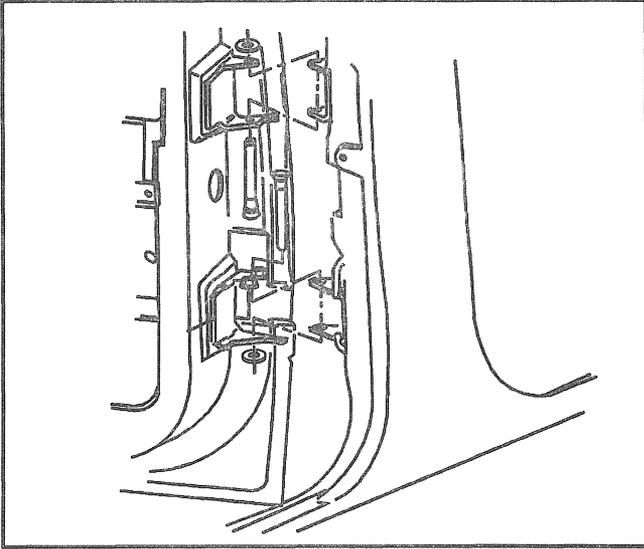

Figure 61—Rear Door Hinge Pin Removal
1. Lower hinge pin retainer (Figure 61).
3. Upper hinge pin retainer (Figure 61).
1. Wire harness connectors inside B-pillar (Figure 61).